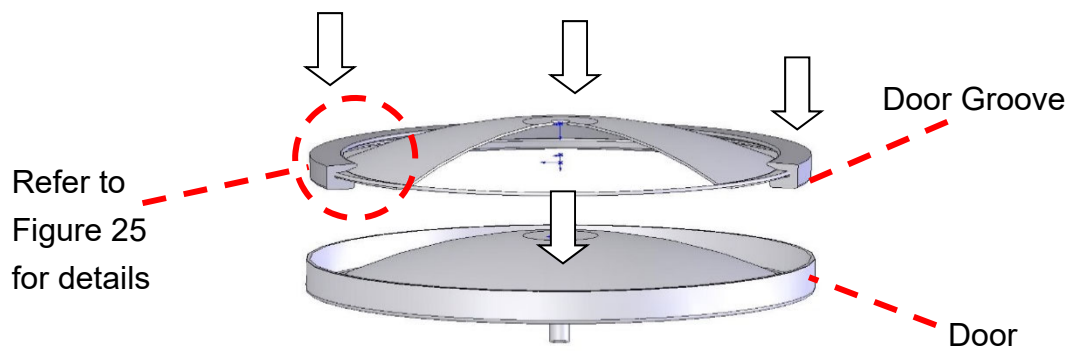
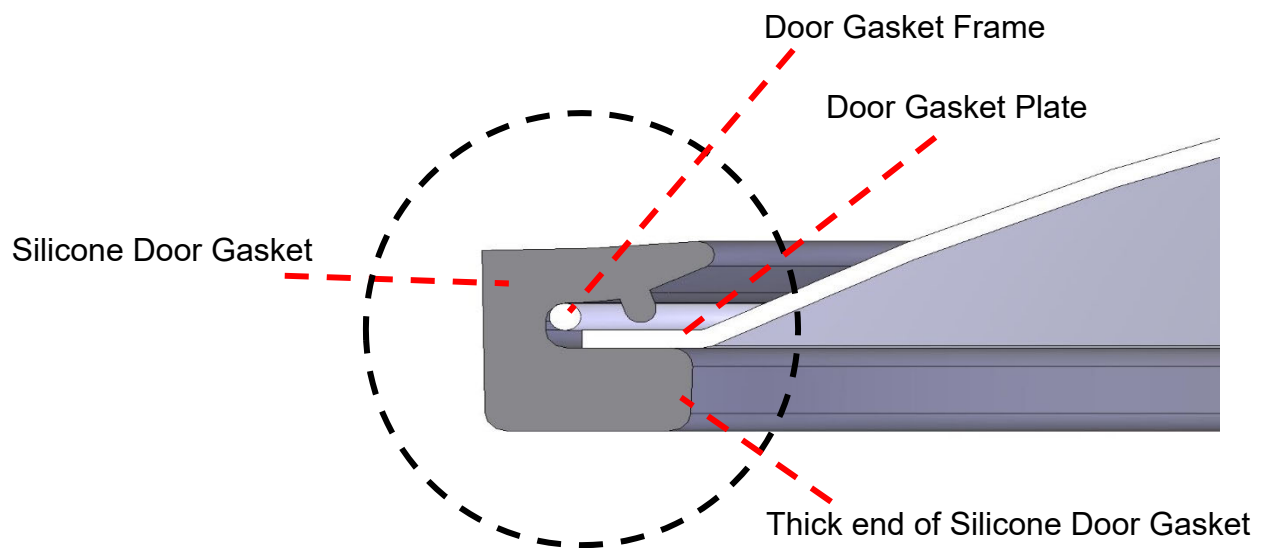

Figure 24
Figure 25
3. Install the gasket with the door gasket frame, door gasket plate inside to the door groove. Press the gasket into the door groove evenly as shown in Figure 24. Take thick end of silicone door gasket of the installation direction while pressing the gasket into the groove. Refer to Figure 25 for the correct direction.